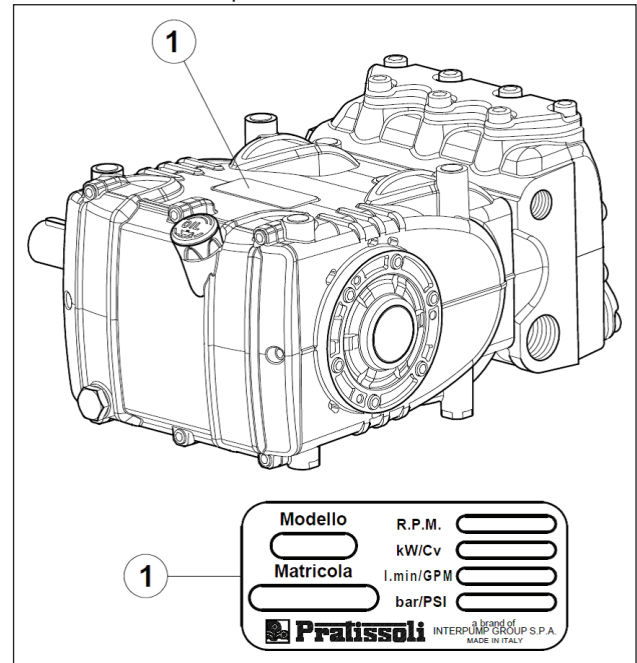

Fig. 1
Each pump has an identification label see pos. ① of Fig. 1 showing: